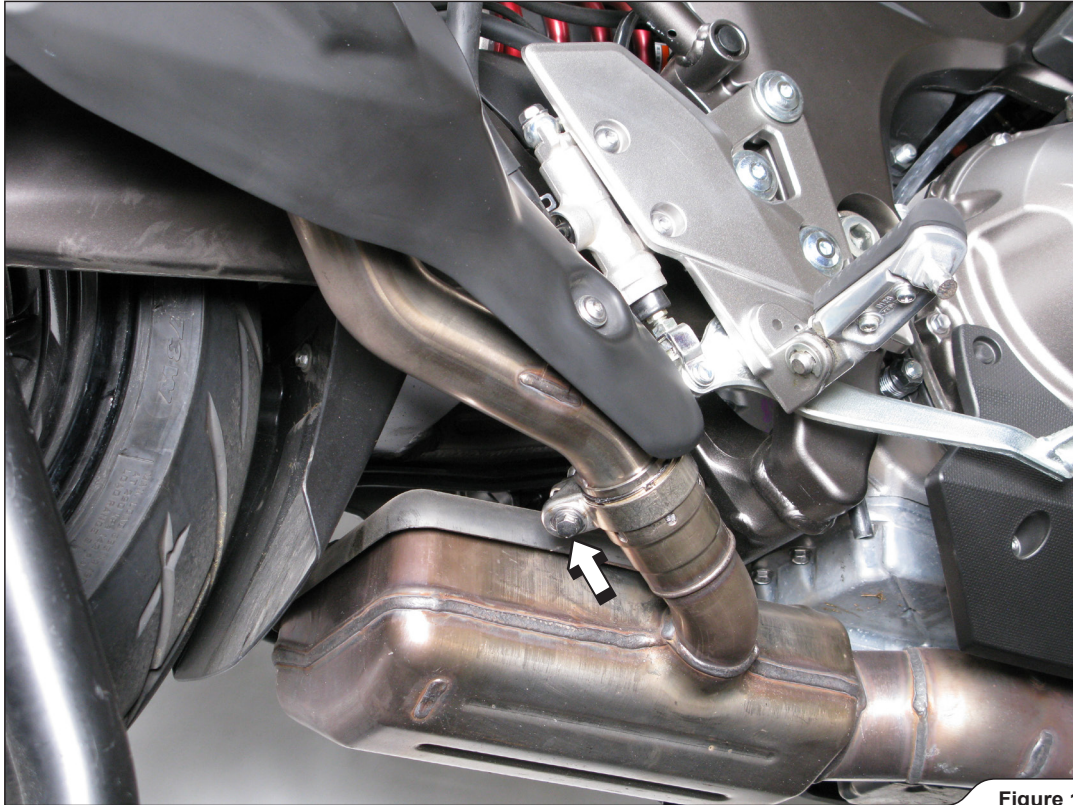

Figure 1
2. Untighten the marked link pipe clamp, unscrew the marked muffler bracket bolt and remove the original muffler of the motorcycle (Figure 1, 2).